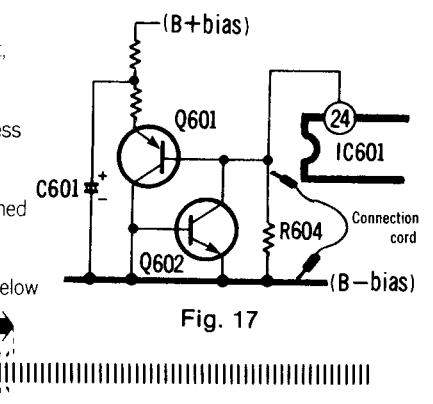

Fig. 17
1. Test equipment connection is shown in fig. 17.
2. Short R604 by connecting a connection cord across it, as shown in fig. 17, to stop oscillation of the astable multivibrator consisting of Q601 and Q602.